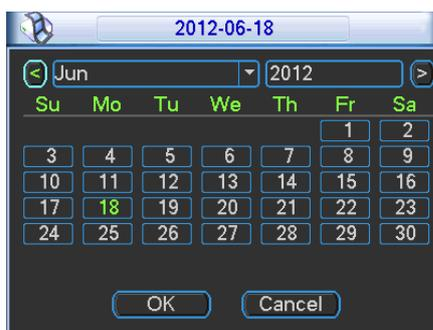

Figure 4-14
- Record types: There are four types: regular, motion detection (MD), Alarm, MD & alarm.
- Holiday setting: Click it you can see an interface shown as in Figure 4-14. Here you can set holiday date. Check the box, it means current channel shall record as your holiday setup. Please go to the Period interface to set the holiday date record setup. Please note you need to go to Chapter 5.3.1 to enable Holiday function first.